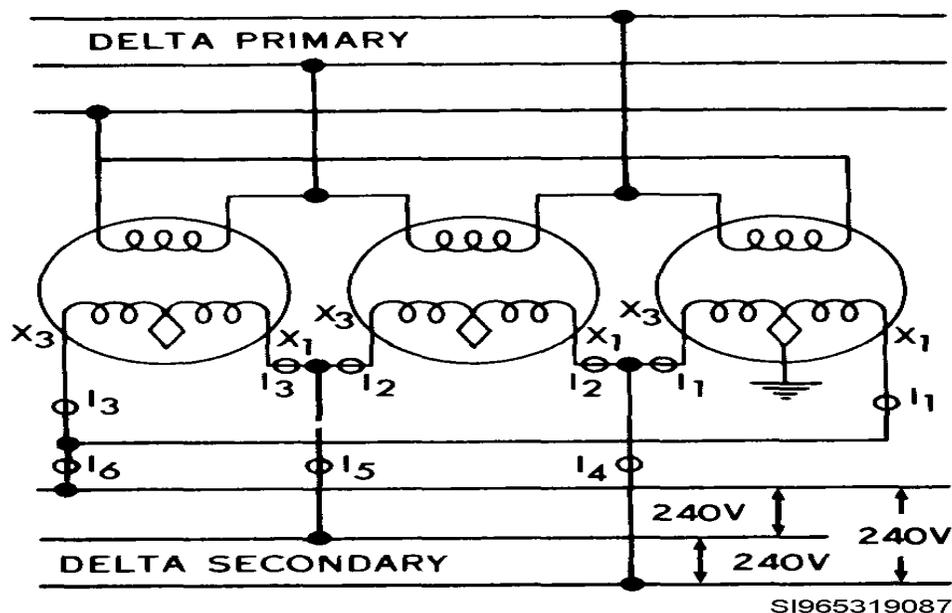

Figure 4, Delta/Delta For Power Only
Step 6: Primary Connection for a delta / as seen in Figure 4 above.
Step 7: Secondary Connection for a delta / delta as seen in Figure 4 above.